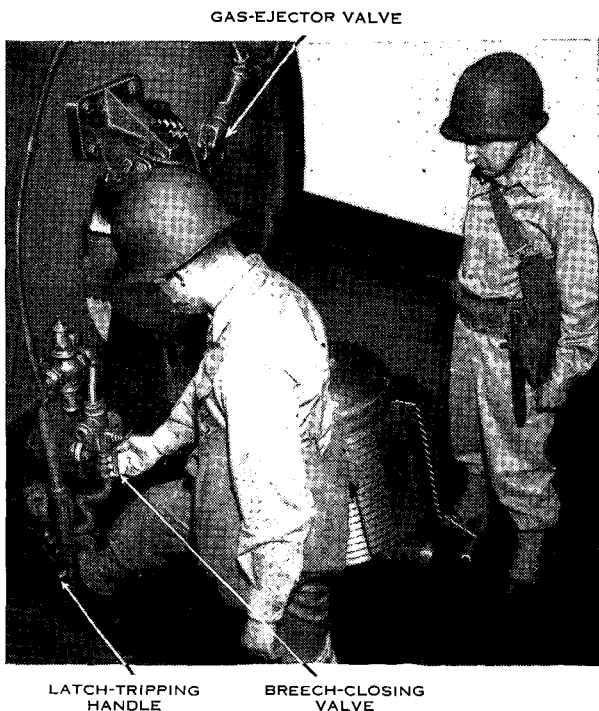

Figure 11. Closing the breechblock.
b. *To close the breech by air pressure* (fig. 11), No. 2 first kicks the tripping handle of the holding-down latch with his right foot and then pulls out the handle of the breech-closing valve. The air pressure, acting on the plunger rod of the closing mechanism, raises the breechblock into the breech recess. The cam rollers, attached to the breech-